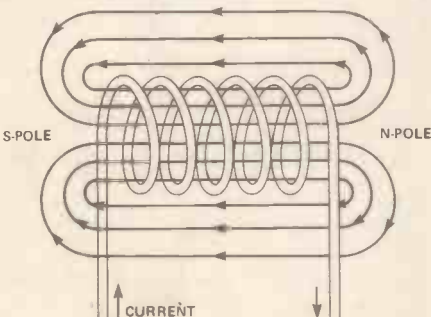
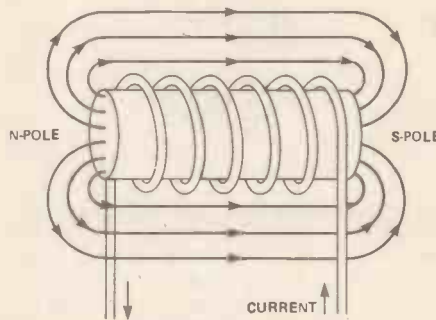

Figure 4. Winding the coil around a soft iron former concentrates the electromagnetic field.
Figure 5. Reversing the direction of the electric current reverses the magnetic field.
Another way to create a stronger magnetic field is to form this loop around a metal core (soft iron is best). The soft iron core (Figure 4) concentrates the field, producing a stronger electromagnet. Figure 4 shows how the coil is now effectively a single magnet with the usual north (N) and south (S) poles. When the current flows as shown, ie, anti clockwise, the north pole is at the right hand end of the electromagnet. However, if the current flows clockwise as in Figure 5 the poles reverse ends!